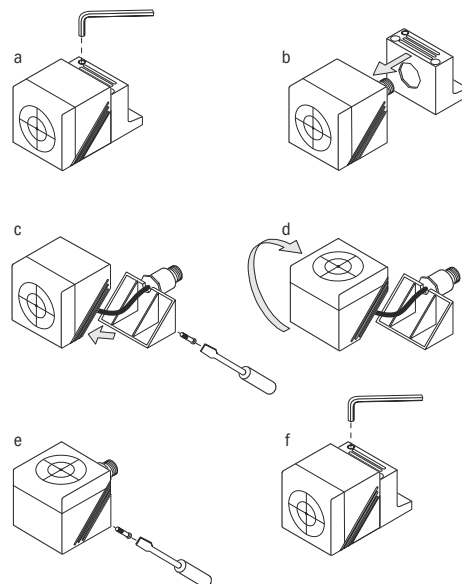

Figure 4: Alignment of the active sensor face of the IN40-D0101K safety switch
- unscrew the hexagon socket screw on the sensor bracket and pull the sensor off the bracket (see figure 4 a-b),
- loosen the two screws at the lower corner of the sensor housing and rotate the active sensor face into the correct position (see figure 4 c-d),
- screw the sensor housing back on and remount the sensor on the sensor bracket (see figure 4 e-f).